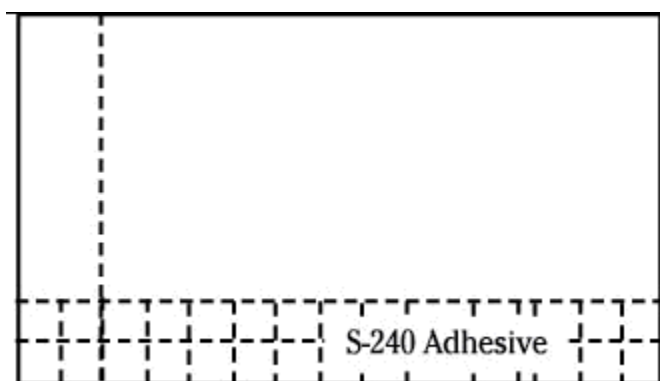

Fig. 3
5. Apply S-240 Adhesive for only two or three rows of tile (Fig. 3). Working time of S-240 is approximately 1 hour.